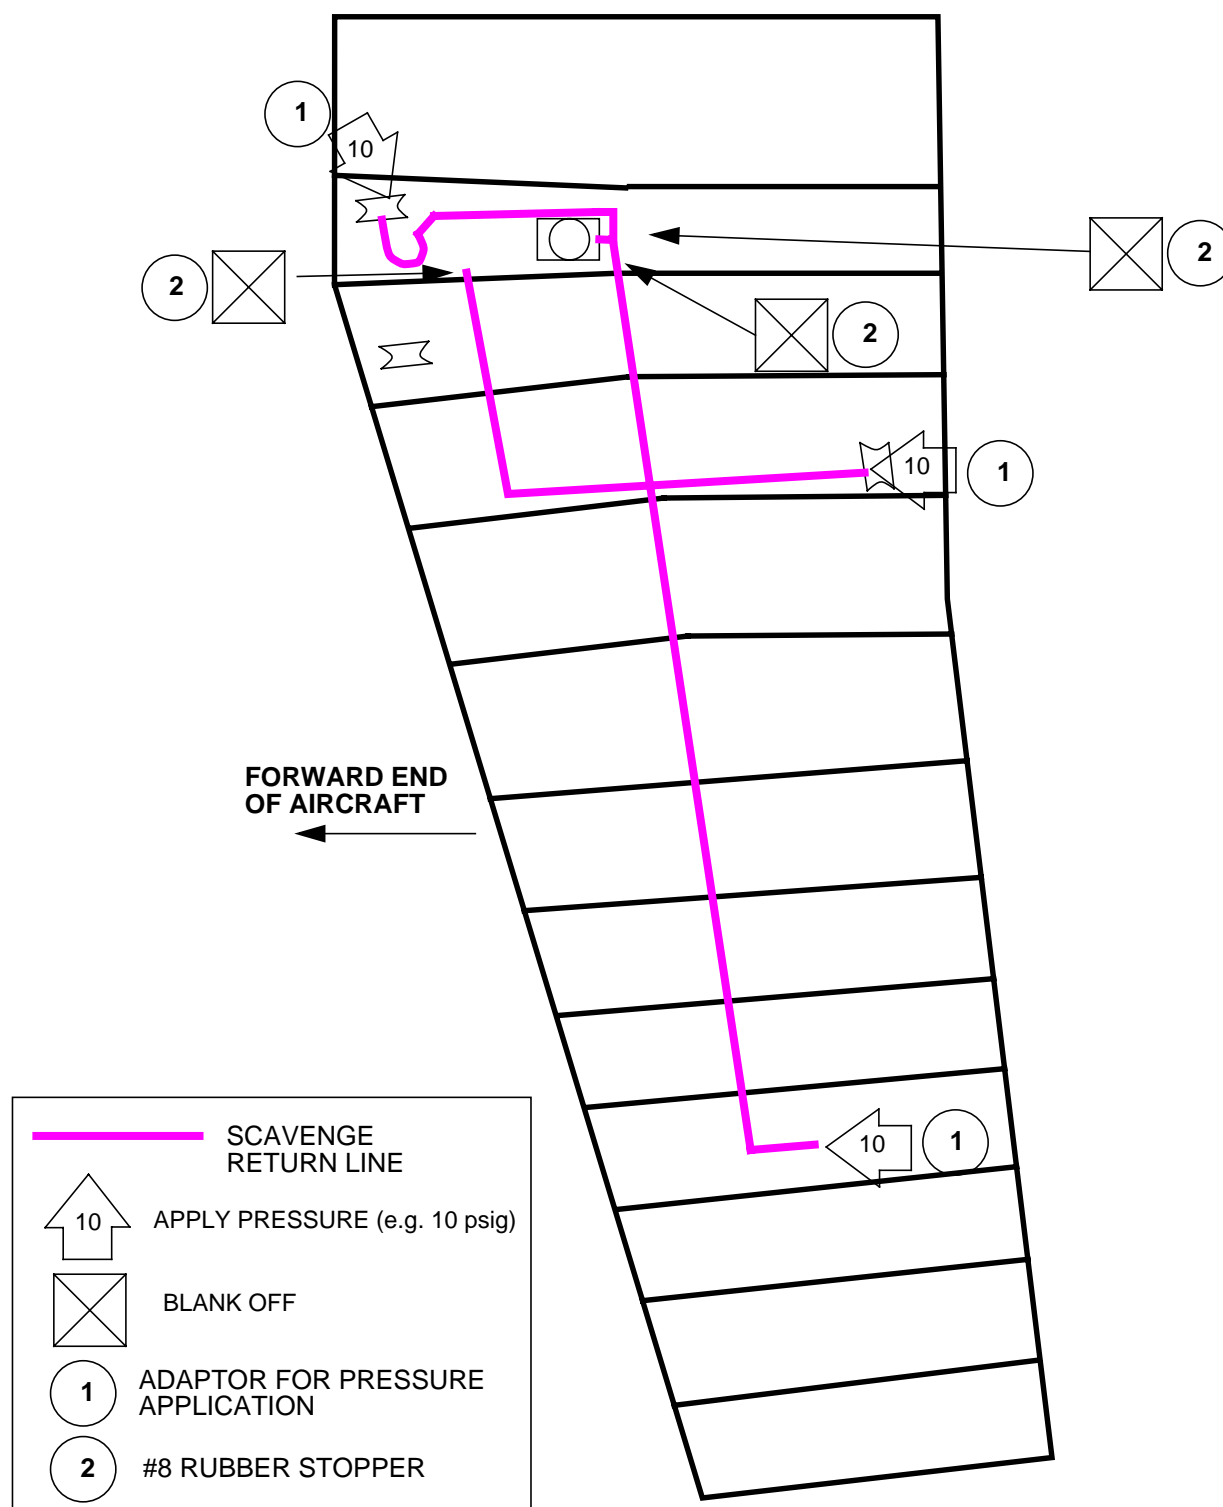

Figure 5 - Scavenge Return Line Pressure Test
5.3.2.4 Isolate the **scavenge return lines** as follows (see Figure 5):